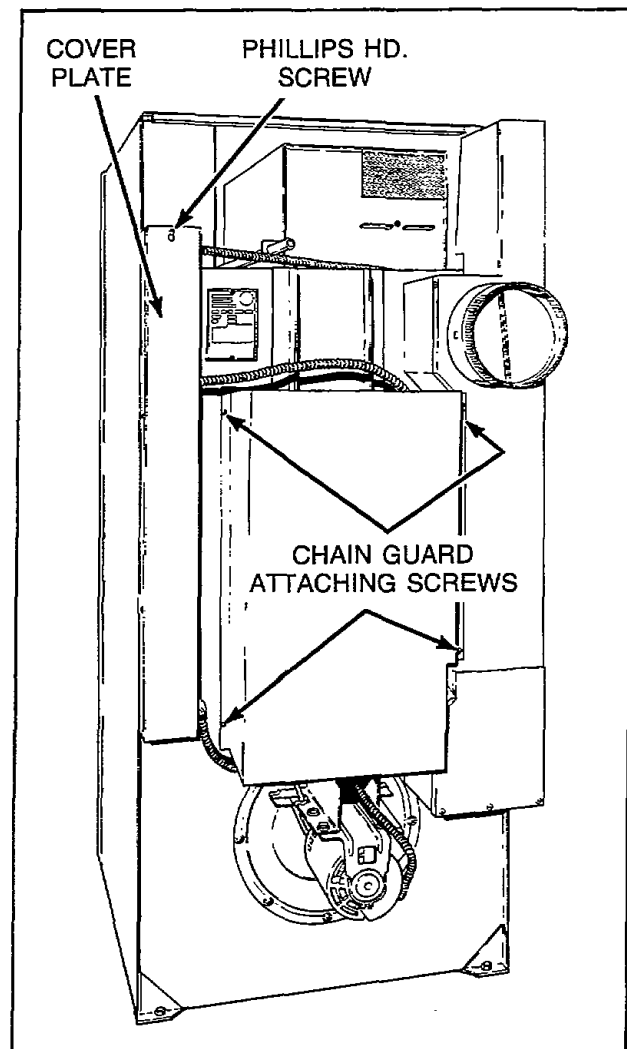

Figure 20
**16. CHAIN GUARD** (Refer to Figure 20)
17. **WIRE CHANNEL COVER PLATE** (Refer to Figure 20)